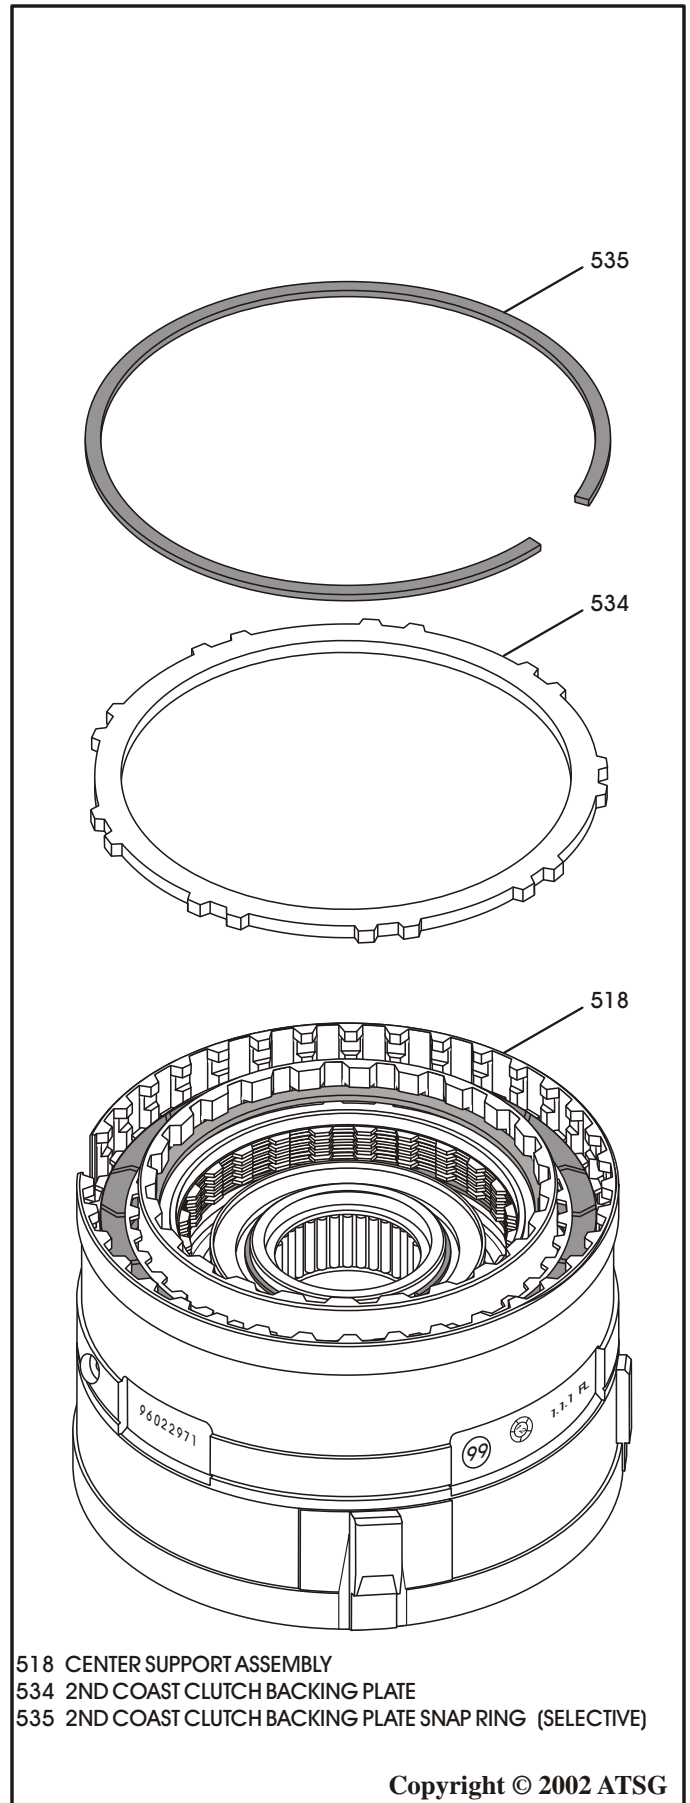

Figure 148
35. Install the 2nd coast clutch backing plate, as shown in Figure 148.
36. Install the "Selective" backing plate snap ring, as shown in Figure 148, and ensure that snap ring is fully seated against the top of snap ring groove in the center support.